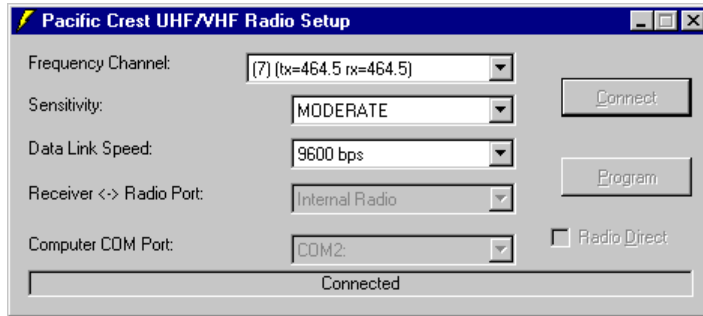

Figure 6.3: UHF-VHF Radio Setup Main Window - Connected
5. Upon successfully connecting to the radio, the main window displays the current settings for the radio (Figure 6.3).